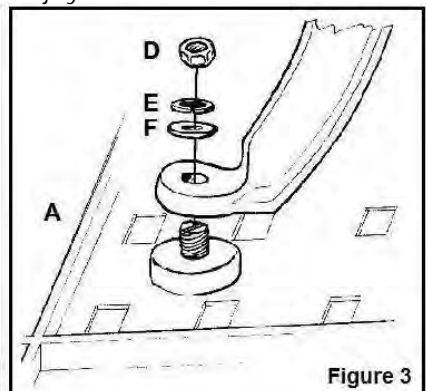

Figure 3
1. Invert the table top (A) and place on a padded, non-abrasive surface.
2. Screw the four headless bolts (G) into the four holes on the underside of the table top, with the slotted ends of the bolts facing upward. Tighten using a flat-head screwdriver.
3. Turn the assembled table base upside-down and place the base on top of the table top (A) bottom, inserting the table base holes into the bolts protruding from the top. See Figure 3.
4. Place a flat washer (F), locking washer (E), and a nut (D) on each bolt (G), as shown. See Figure 3. **Hand-tighten only.**
5. Tighten nuts (D) securing base legs (B) to stretchers (C) first, then tighten nuts (D) securing top (A) to base. To avoid stripping the screws, do not over-tighten or use electric drill.